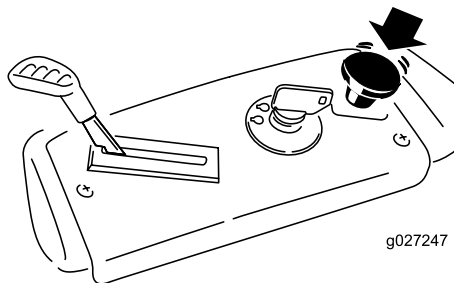

Figure 12
1. Disengage the blades by moving the blade-control switch to Off (Figure 12).